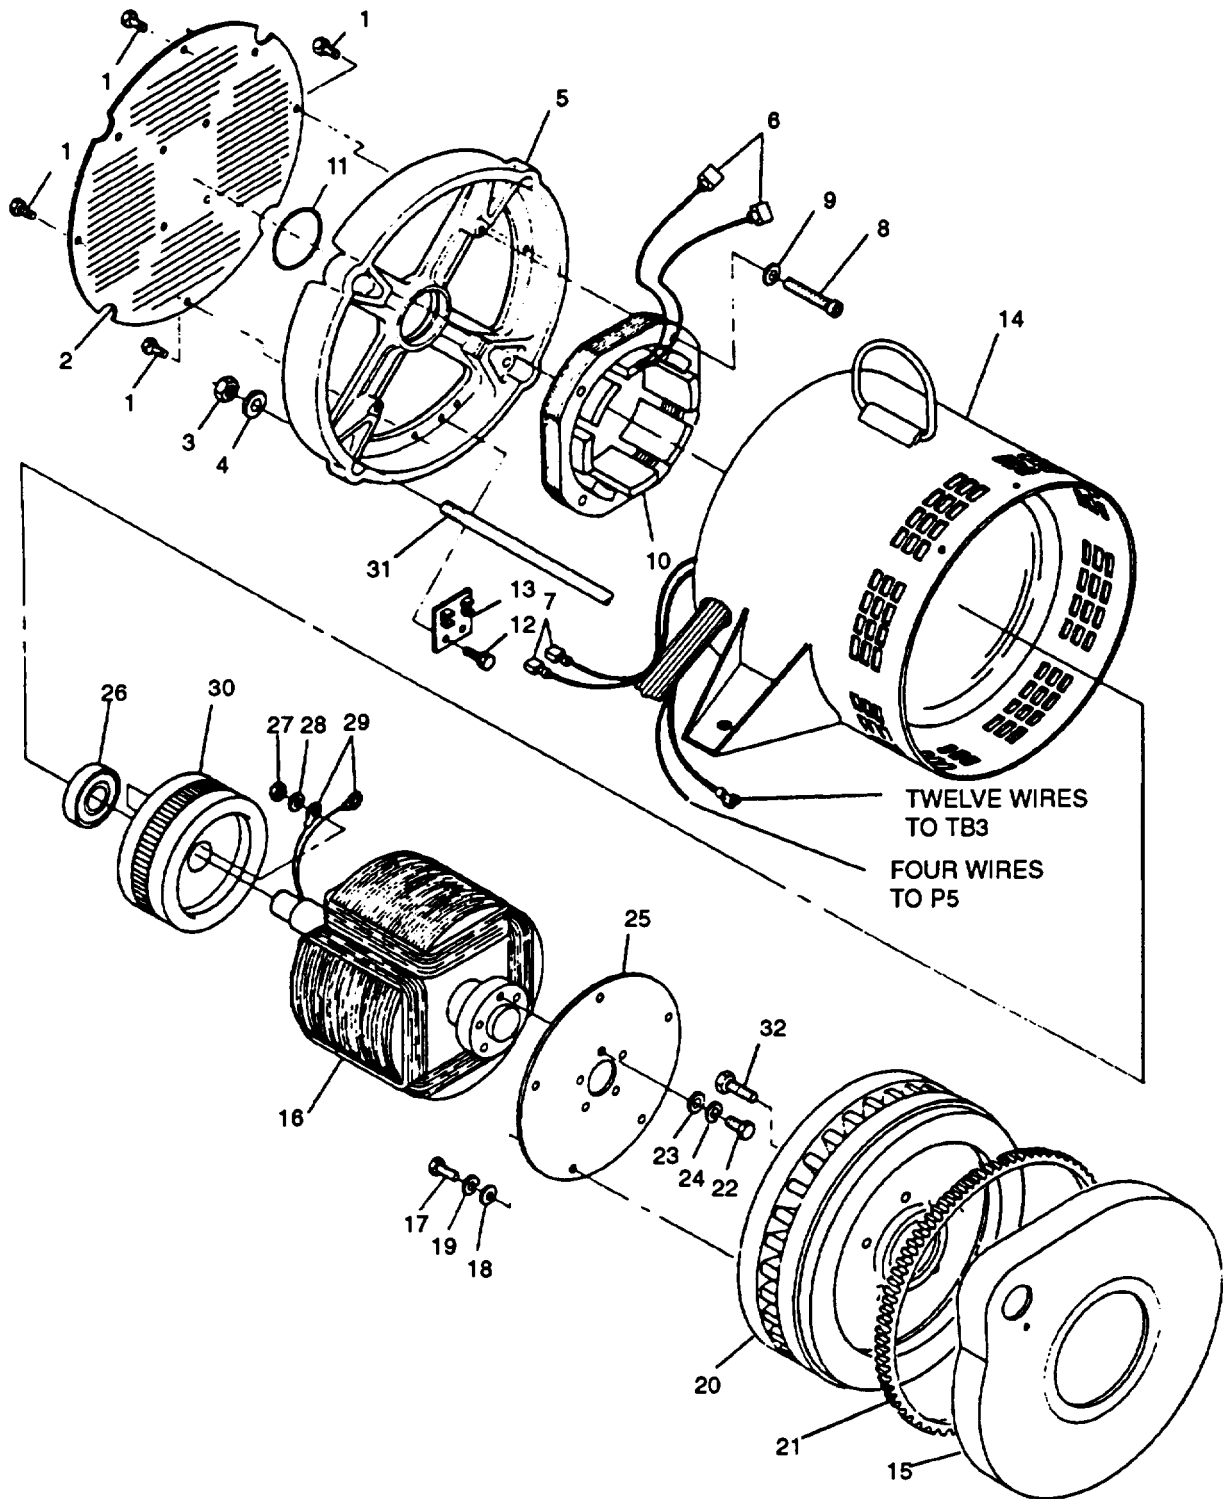

FIGURE 4-24. Generator Assembly (MEP-803A)
- e. Remove bolts (1, FIGURE 4-24) and end bell cover (2).
- f. Remove nuts (3), washers (4), and end bell (5).
- g. Tag and disconnect exciter stator leads (6) and AC voltage regulator leads (7) from terminal block (13) in end bell (5).
- h. Remove bolts (8), washers (9), brushless exciter stator (10), and packing (11) from end bell (5).
- i. Remove bolts (12) and terminal board (13) from end bell (5).
**Use care to avoid contact between stator (14) and rotor assembly (16).**
- j. Using lifting device attached to stator (14) lifting point, carefully pry loose (screwdriver slots provided), and remove stator (14) from engine/generator adapter (15).
- l. Remove bolts (17), washers (18), lockwashers (19), and rotor assembly (16) from engine flywheel/generator fan (20).
- m. Remove bolts (22), washers (23), lockwashers (24), and drive disc (25) from rotor assembly (16).
- n. Using gear puller, remove bearing (26) from rotor assembly (16).
- o. Tag and disconnect F1+ and F2- leads (29) from rotating rectifiers by removing nuts (27) and washers (28).
- p. Using gear puller, carefully remove exciter rotor (30) from rotor assembly (16).
- q. Remove thru-bolts (31) from engine/generator adapter (15).
- r. Remove bolts (32) and engine flywheel/generator fan (20) from engine crankshaft.
- a. Inspect end bell assembly (5, FIGURE 4-24) for cracks, tom packing (11), broken terminal board (13), and other damage.
- b. Inspect exciter stator (10) for broken windings, evidence of overheating, damaged insulation, and loose terminal ends.
- c. Inspect bearing (26) for looseness and evidence of overheating.
- d. Inspect exciter rotor (30) for broken windings, evidence of overheating, damaged insulation, and other damage.
- e. Inspect rotorassembly(16) for broken windings, evidence of overheating, damaged insulation, and loose terminal ends.
- f. Inspect stator(14) for broken windings, evidence of overheating, damaged insulation, loose terminal ends, and darnaged housing.
- g. Inspect drive disc (25) for bends, cracks, elongated mounting holes, and other damage.
- h. Inspect flywheel/generator fan (20) for cracks, bent or broken fan blades, broken teeth, stripped threads, and other damage.
- a. If ring gear (21, FIGURE 4-24) is damaged, place the flywheel (20) on a solid surface.
- b. Drive ring bearing gear (21) off with a brass drift and hammer.
**Wear protective gloves to help prevent burns from handling hot ring gear (21).**
- c. Heat new ring gear (21) to 300°F (148°C) using either heated oil, oven heat, or flame heat.
- e. Install ring gear (21) against shoulder of flywheel,
- b. Coat mating area between bearing (26, FIGURE 4-24) and end bell (5) with grease (Item 9, Appendix C).
- c. Install engine flywheel/generator fan (20) on engine crankshaft with bolts (32). Torque bolts (31) to 51 ft-lbs. (69 Nm).
- d. Install thru-bolts (31) in adapter (15).